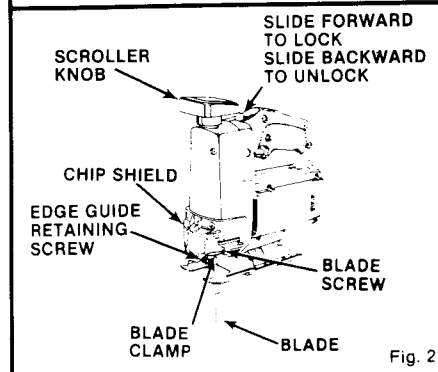

Fig. 2
1. See Figure 2. Loosen blade screw, using supplied allen wrench, and insert saw blade as far as possible into slot in blade clamp.
NOTE: ALL BLADES EXCEPT THE FLUSH CUTTING BLADE, ITEM NO. 2877, SHOULD BE INSTALLED WITH THE CUTTING EDGE TOWARD THE SAW BAR. SEE FIGURE 2. THE FOLLOWING DIRECTIONS EXPLAIN HOW TO INSTALL THE FLUSH CUTTING BLADE.